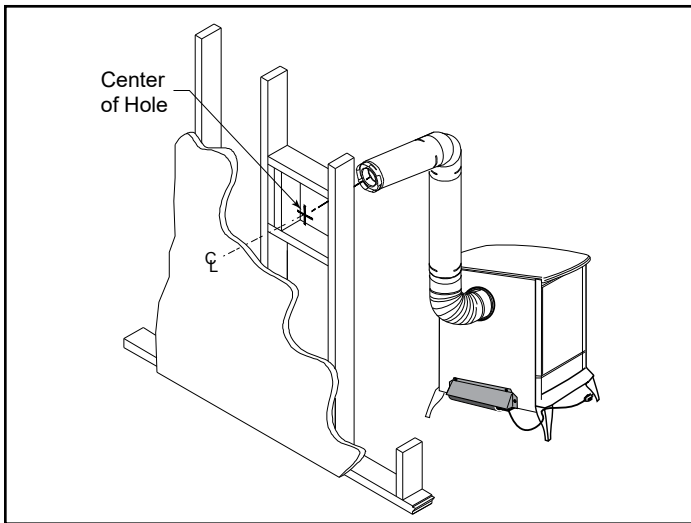

Figure 3.25
Step 3 - With the appliance adapter and pipe section attached, slide the stove into its correct location. Mark the wall for a square hole that measures 10" x 10" (254 x 254 mm). The centerline of the pipe should line up with the center of the square hole, Figure 3.25. Cut and frame the square hole in the exterior wall where the vent will be terminated. If the wall being penetrated is constructed of noncombustible material only, i.e. masonry block, brick or concrete only, a hole with zero clearance is acceptable.